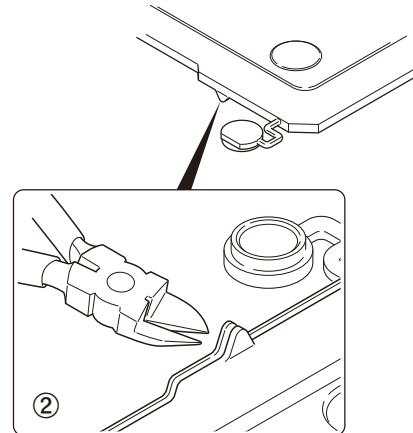

Fig. 6-3
- Note:** If the GPS receiver is installed, cut the base of the convex tab of the top packing with a pair of diagonal cutters, or similar tool. (Fig. 6-3 ②)